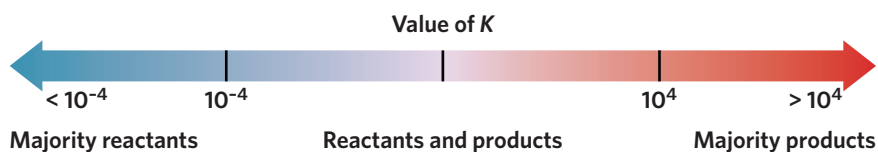

Figure 2 The magnitude of K indicates the ratio of reactants to products present at equilibrium.
In lesson 5B, we will investigate the equilibrium constant (K). The equilibrium constant is the ratio of the concentrations of the products to the concentrations of the reactants in a reaction. The magnitude of K can be used to indicate the extent of a reaction (figure 2). For large K values ($> 10^4$), we can assume that the reaction has proceeded to a considerable extent, meaning there is a significant concentration of product in the reaction system. For K values between 10^4 and 10^{-4} , we can assume that the reaction has proceeded to a moderate extent and that considerable concentrations of both products and reactants are present in the reaction system. For small K values ($< 10^{-4}$), we can assume that the reaction has not proceeded to any considerable extent, and that there is a considerable proportion of reactants present.